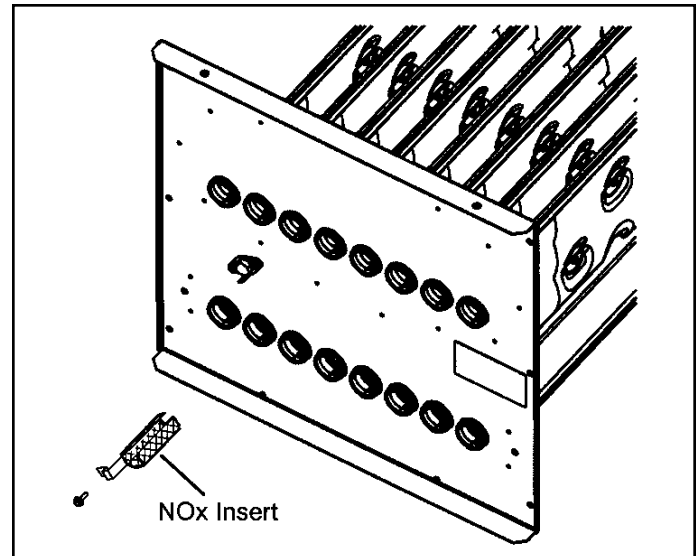

Figure 29. NOx Inserts
8. NOX units only - Remove screw securing NOX insert. Remove NOX insert. See Figure 29.